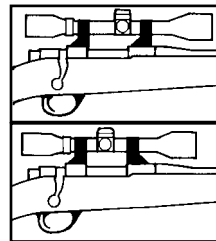
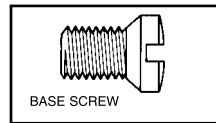
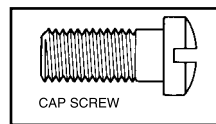
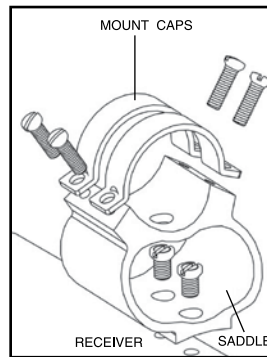

FIG. 1
FIG. 2
FIG. 3
FIG. 4
2. Determine which mounting arrangement is best for proper positioning of scope (FIG. 1). Use four (4) base screws (FIG. 2) and correct size screwdriver to attach saddle to receiver (FIG. 4). *Many gunsmiths apply a small amount of thread adhesive to base screws.* (Do not allow thread adhesive to get into the action.)
3. Place scope on saddles. Position caps over scope tube. Use screwdriver and 8 cap screws (FIG. 3) to attach caps to saddles (FIG. 4). Tighten cap screws to a loose fit. Make sure crosshairs are vertical/horizontal and turret caps are positioned to the top and to the right. **IMPORTANT:** Do not use thread adhesive on mount cap screws.